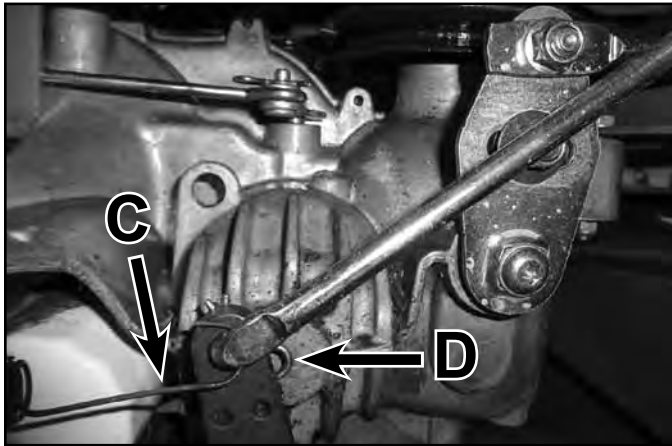
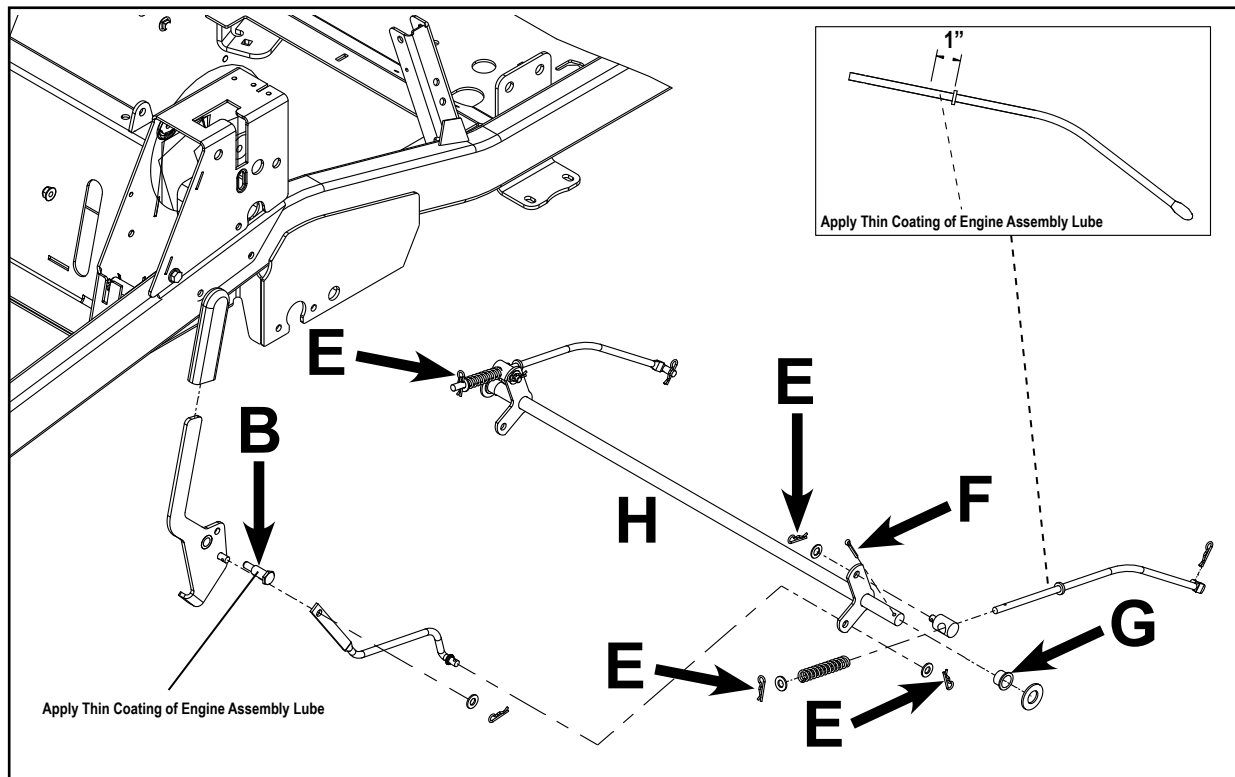

Fig. 045
Fig. 046
1. Position the brake bell crank (H) into the frame pivot holes.
2. Install the pivot bushings (G), washers and cotter pins to secure the bell crank into the frame.
3. Install the (3) linkage rods to the bell crank and install retaining washers and clips (E), and (D).
4. Install the brake return spring (c) (Fig. 045).
5. Lubricate the brake handle pivot bolt (B) friction surface with a light coating of engine assembly lube.
6. Install the parking brake handle into the motion control box and torque the mounting fastener (B) to specification – 17 ft-lbs. (23 Nm).
7. Install the parking brake linkage rod to the handle stud using the washer and clip (A).
8. Install the LH control cover and torque the (1) mounting fastener to specification - 5 ft-lbs. (7 Nm).
11. Verify proper parking brake function. (Fig. 046)